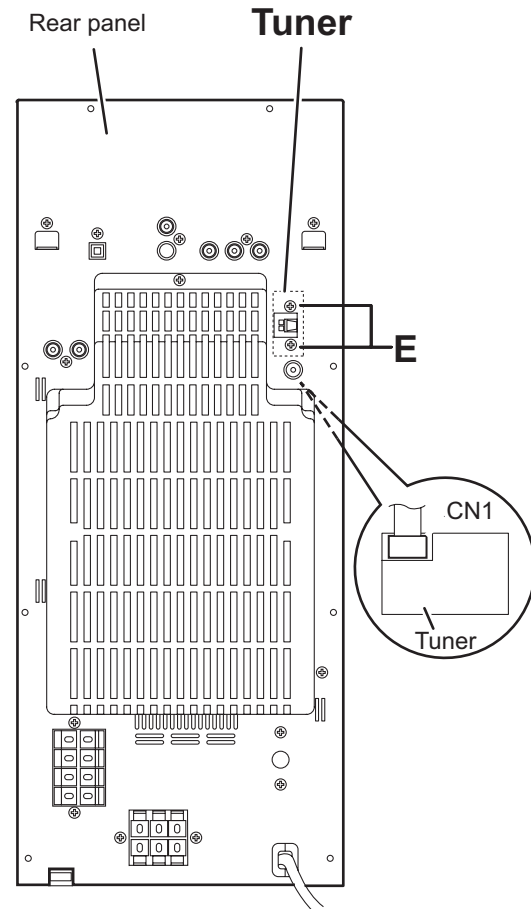

Fig.6
3.1.3 Removing the tuner (See Fig.6)